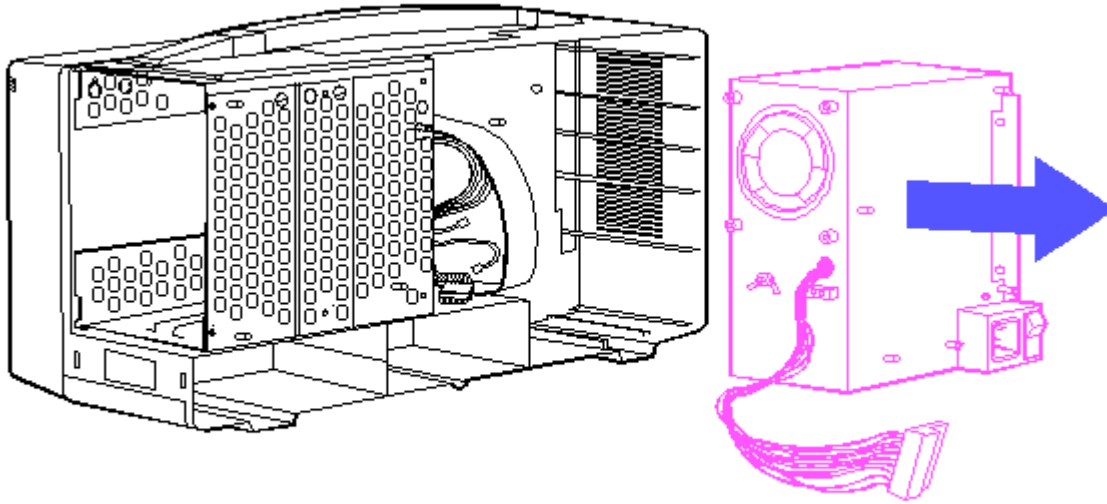

Figure 8-55. Removing the Power Supply
14. Carefully slide the power supply out of the computer chassis (Figure 8-55).